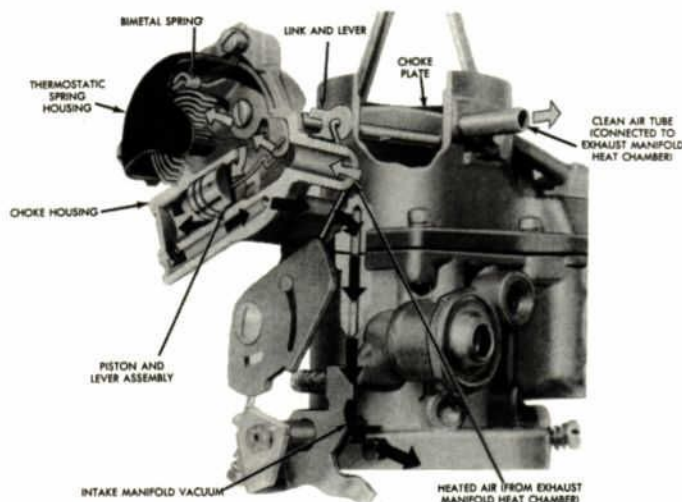

Figure 17—Automatic Choke System
**Automatic Chokes** should also be checked for proper operation from the open to the closed position. It functions much like a manual choke, except that a bi-metal thermostatic spring controls choking by winding up when cold and unwinding when warm. Figure 17. When the throttle is depressed as the engine is started, the linkage should allow the bi-metal spring to wind up and close the choke plate. Engine vacuum acts on the piston, which pulls against the thermostatic spring to partially open the choke to prevent stalling. A stuck piston can cause a hard starting problem. As the engine warms up, the spring expands, opening the choke plate to the vertical or open position. When properly adjusted, the choke plate should have a clearance between the body bore of approximately 0.160 inch. Figures 18-19.